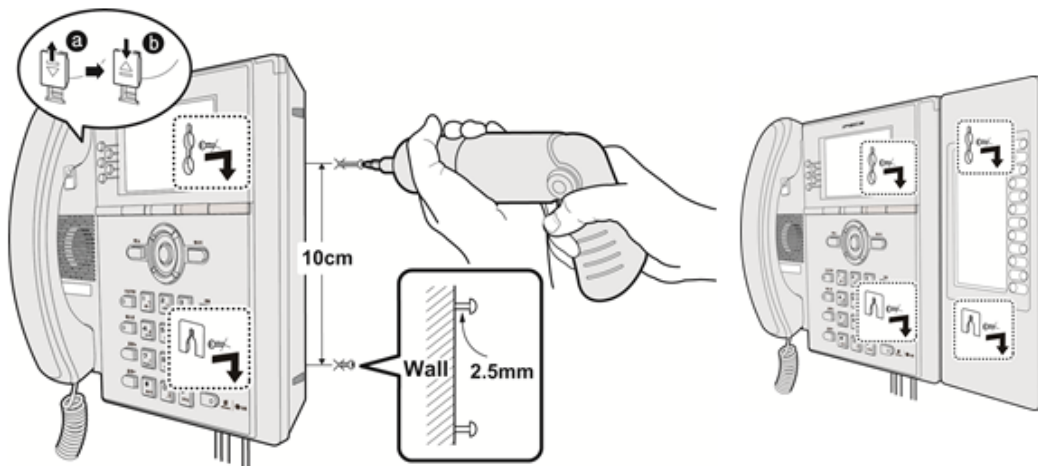

Figure 7.1.3-1 LIP-8000E Series Wall Mount Installation
1. Using Figure 7.1.3-1 to mark and drill two (2) 7mm holes for plastic wall anchors.
2. Insert the two (2) anchors into the holes, and insert and tighten two (2) screws leaving about 2.5 mm (1/8-inch) exposed. If installing an LIP phone with a Console, also drill anchor holes, insert anchors, and tighten screws for the Console Wall Mount slots.